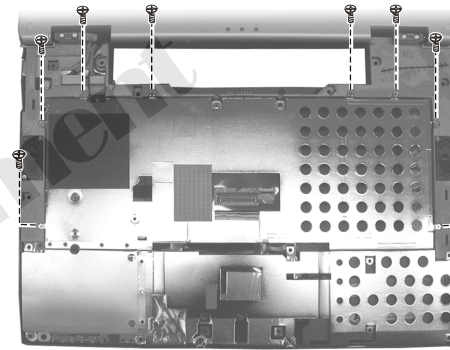

Figure 2-22 Remove eight screws
7. Remove eight screws. (Figure 2-22)